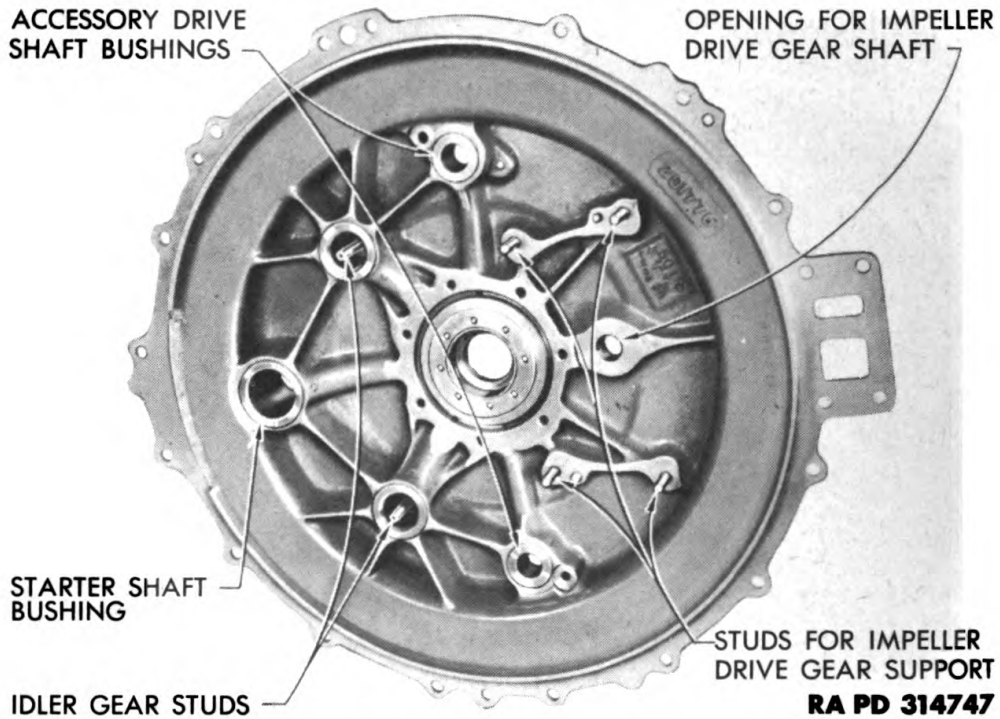

Figure 153 — Diffuser Section with Parts Removed
a. **Inspect Diffuser Section.** Check entire section for cracks or other indications of damage (fig. 153). Check points where pullers are attached during removal, to see that pullers have not damaged section. Check machined flanges at rim and bearing cages for scratches, burs, or roughness. Smooth scratches, burs, or rough spots